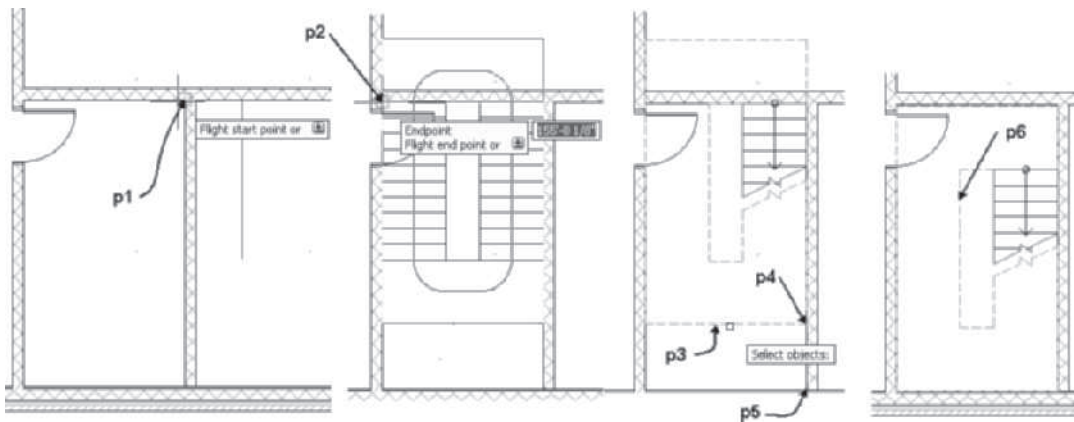

FIGURE 9.68 Location of flight points of U-shaped stair
Flight start point or: *(Select the wall near p1 using the Endpoint object snap as shown in Figure 9.68.)*
Flight endpoint or: *(Select the wall near p2 using the Endpoint object snap as shown in Figure 9.68.)*
Select objects: *(Select the stair at p3 as shown in Figure 9.68.) 1 found*
(Select a point near p4 as shown in Figure 9.68.)
(Select a point near p5 as shown in Figure 9.68.)
10. Select the Content Browser from the Tools flyout of the Build panel of the Home tab and open Design Tool Catalog – Imperial > Stairs and Railings > Railings [Design Tool Catalog - Metric] > Stairs and Railings > Railings. Select the i-drop for Guardrail-Rect Balusters from page 2 of the Railings category and drag this style into the workspace. Edit the Properties palette for the railing as follows: Attached to = Stair, Perpendicular posts = No, Maintain sloping posts at landings = No, Side offset = 2" [50], and Automatic placement = yes. Select the stair near p6 as shown in the command sequence below and in Figure 9.68.
Select a stair or [Style/Attach/Match/Undo]: (Select the stair near p6 as shown in Figure 9.68.)